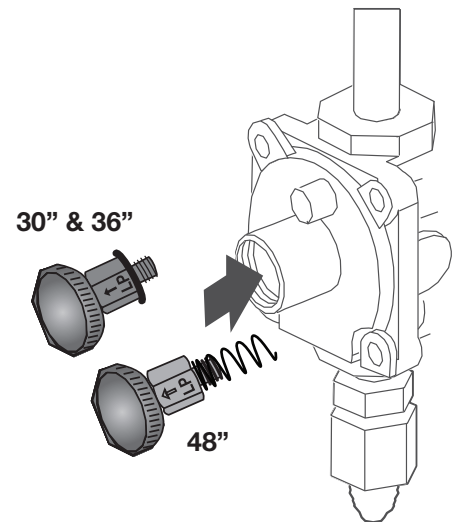

Figure 12
**6** Screw the regulator cap back into the regulator and re-attach it to the nipple and flare union as shown. DO NOT over-tighten (see Figures 12 and 13).
**1** When the appliance is converted for Liquid Petroleum (LP) Gas, the LP gas supply is required to provide a minimum of 10" to a maximum of 12" water column to the appliance regulator. Following LP Gas Conversion, complete steps: "Adjusting the Regulator Pressure"; "Changing Burner Nozzles"; "Adjusting Burner Flames"; and "Testing Flame Stability".